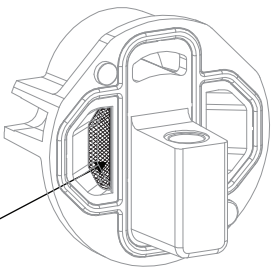

**Figure 1.**
6. Reassemble mixer. Ensure that both black lines marked on the cartridge and cartridge nut are aligned when the mixer is in full cold position as shown in Figure 1.
<p>5. Reassemble mixer. Ensure that both black lines marked on the cartridge and cartridge nut are aligned when the mixer is in full cold position as shown in Figure 1.</p>  <p style="text-align: right;">Figure 1.</p>